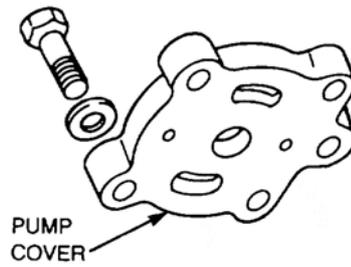

Figure 145 Removal of the Steering Pump Cover
- d.** Remove the four bolts and washers securing the cover to the power steering pump (Figure 145) and remove the cover.